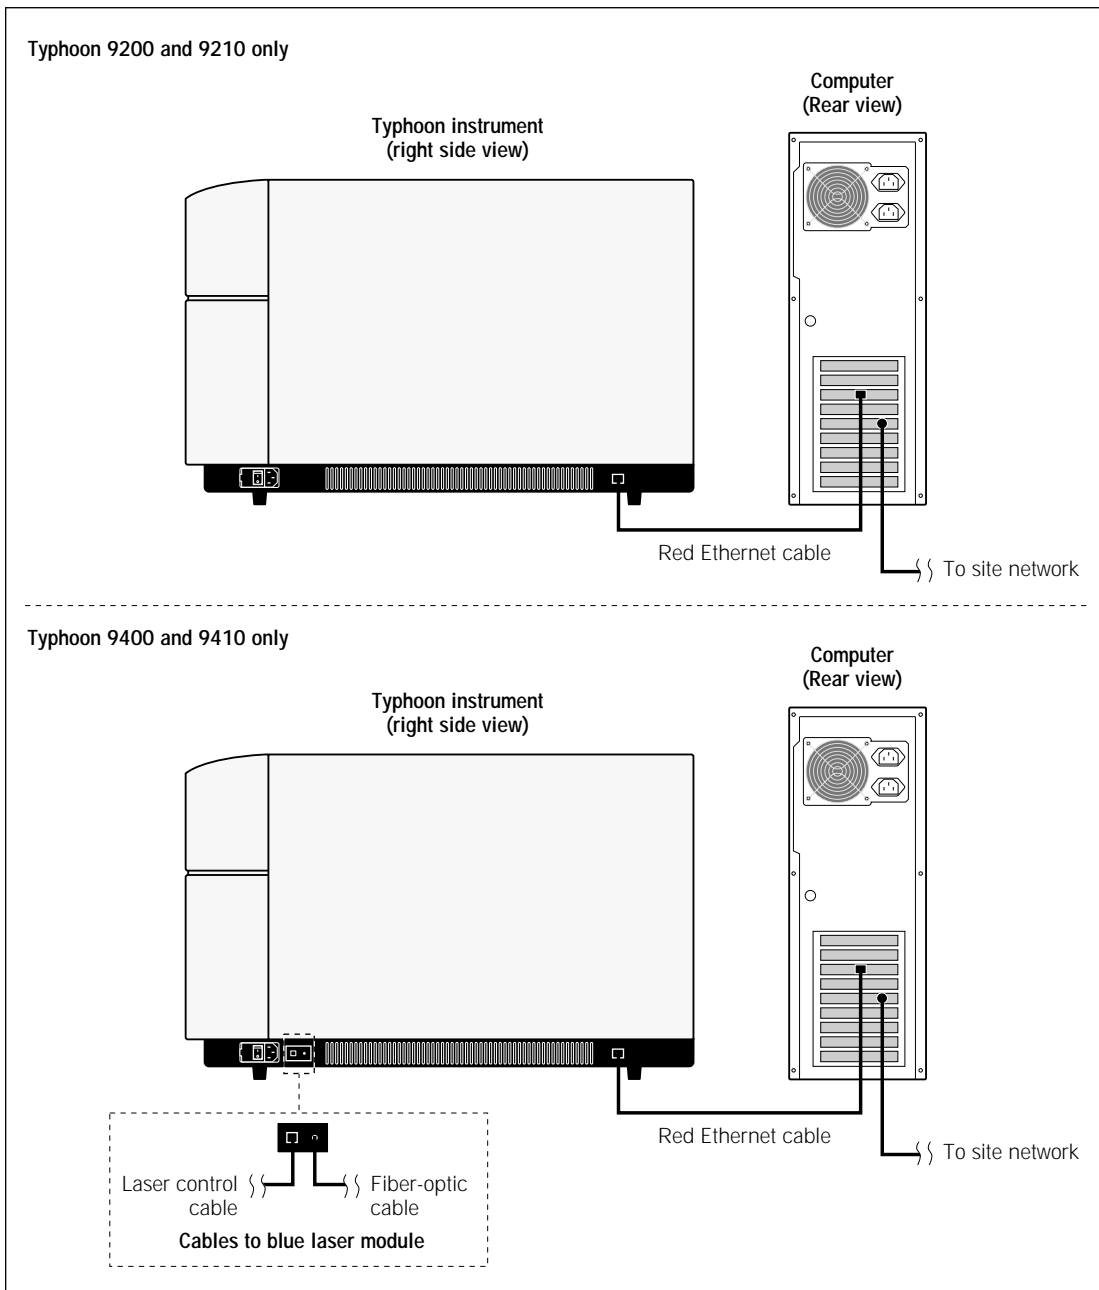

Figure A-1. Ethernet connections on the Typhoon instrument and computer.
- The Ethernet cable might not be properly plugged into the computer or the instrument. Check the connections to make sure they are plugged in and are securely fastened (figure A-1).